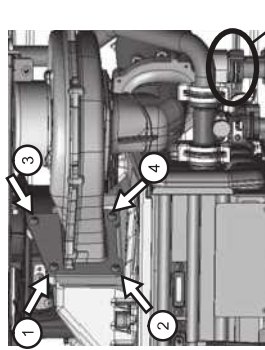

Figure 2
- 2) Remove the C-Clamp -16B. Then remove the 4 screws with a Phillips screwdriver (Figure 2). **DO NOT use a power drill.**
- 8) **Attach the C-Clamp -16B at the bottom of Venturi (Figure 2). Failure to do so will cause gas leaks, possibly resulting in severe personal injury or death.** Secure the Venturi to the Burner Chamber by tightening the 4 screws removed in Step 2. The screws need only to be hand tightened and should not be tightened using a drill. First, insert screws 1-4 in Figure 2, but do not fully tighten these screws. Once all screws are inserted, proceed to completely tighten screws 1-4.